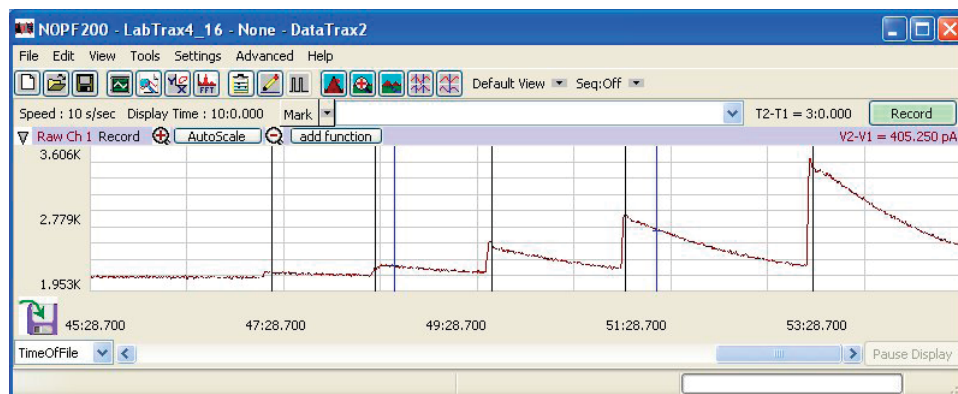

Fig. 44—Raw data for ISO-NOPF200
1. Record data for known samples (**Fig. 44**). The example used a ISO-NOPF200 probe, and the recording shows the results of nitrous oxide (NO) measurements when 2, 4, 8, 16 and 32 $\mu$ L injections of 100 $\mu$ M SNAP are introduced into 20mL of 0.1M CuCl2 solution. The voltage quickly increases with each addition of SNAP. Then, the value steadily decreases due to the quick oxidation of NO. After each injection, the graph shows a small upward peak. This is a normal artifact generated mechanically by the response of adding SNAP to the solution.